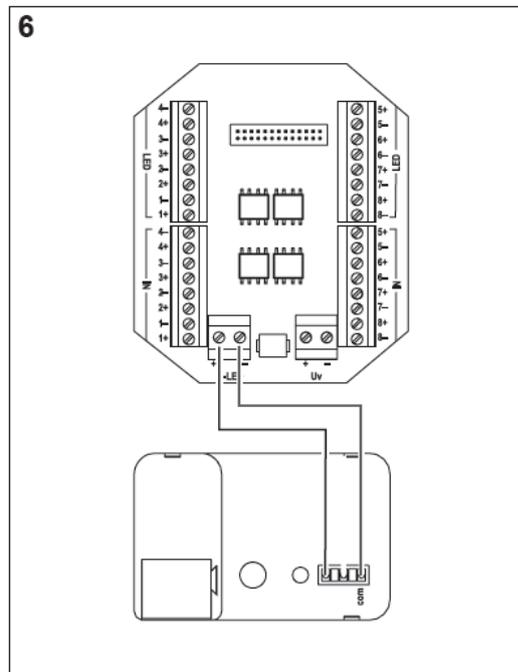

Figure 6
- Route cable of output **A1** into the **+** terminal of the **B-LED** connecting terminals on the adapter (Figure 6) and tighten screw terminal.